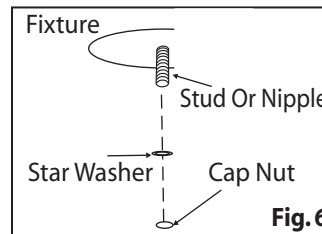

Fig. 6
6. Tuck electrical wires into outlet box and position fixture over studs or nipple on mounting bracket assembly. Secure fixture in place with star washer(s) and cap nut(s). (Fig. 6)